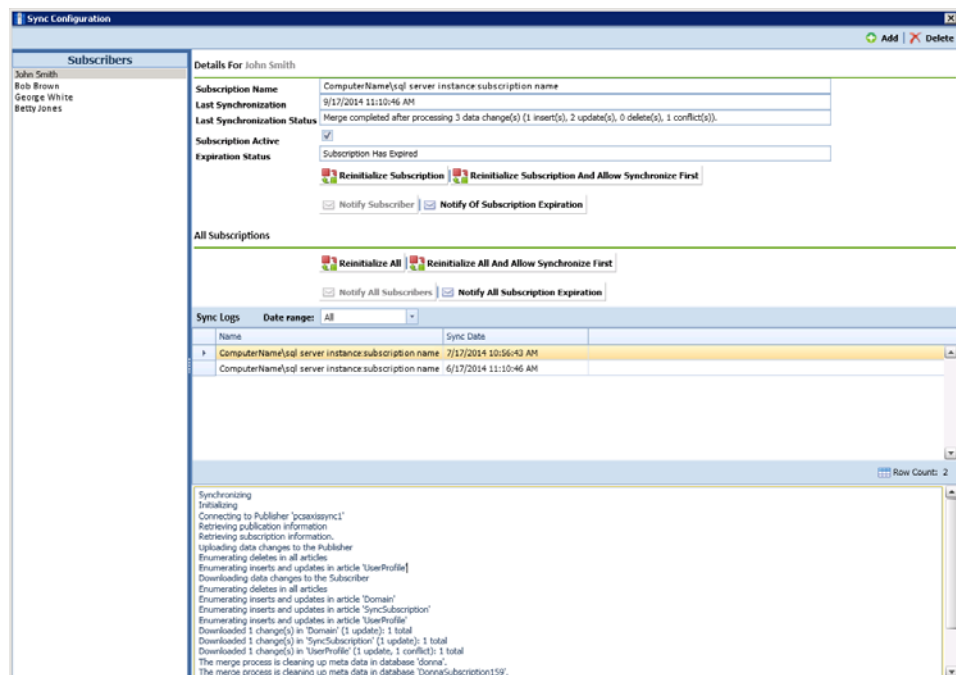

Figure 16-13. Sync Configuration
- 1 Click **Tools > Synchronization > Synchronization Configuration** to open the *Sync Configuration* window (Figure 16-13).